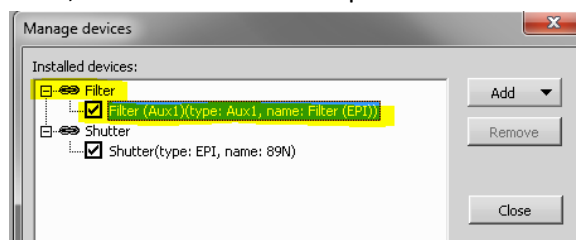

Figure 5
15. When you add the device, it will show up in the connected hardware list. Click on the filter device itself, then click the “Device parameters” button. (Figure 5)